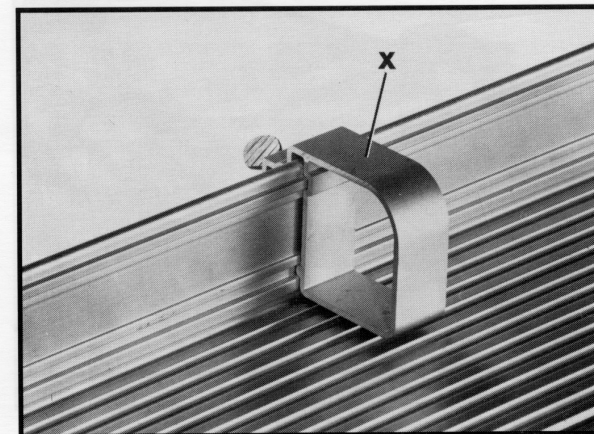

Fig. 18
16. A stock stop (X) Fig. 18, is provided for making repetitive cuts and is assembled to the fence of the table extension, as shown.